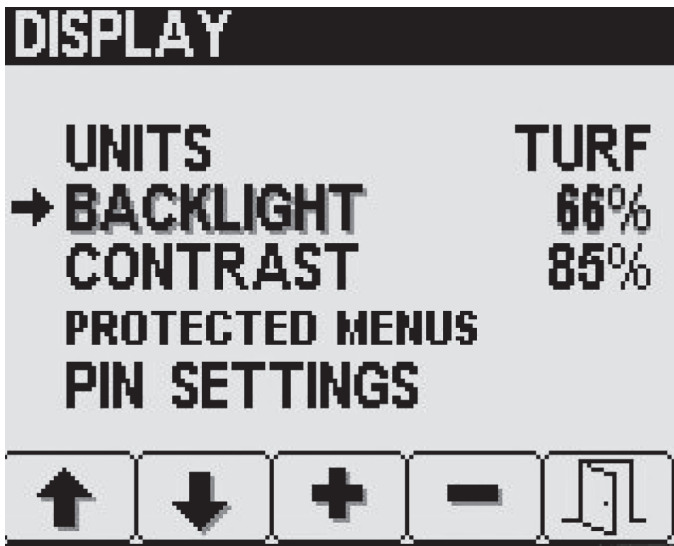

Figure 26
2. At the Display menu screen, press button 2 to navigate to the Backlight option or the Contrast option (Figure 26).
3. Press button 3 (raise) or button 4 (lower) to adjust the amount of backlighting or amount of contrast for the LED display (Figure 26).